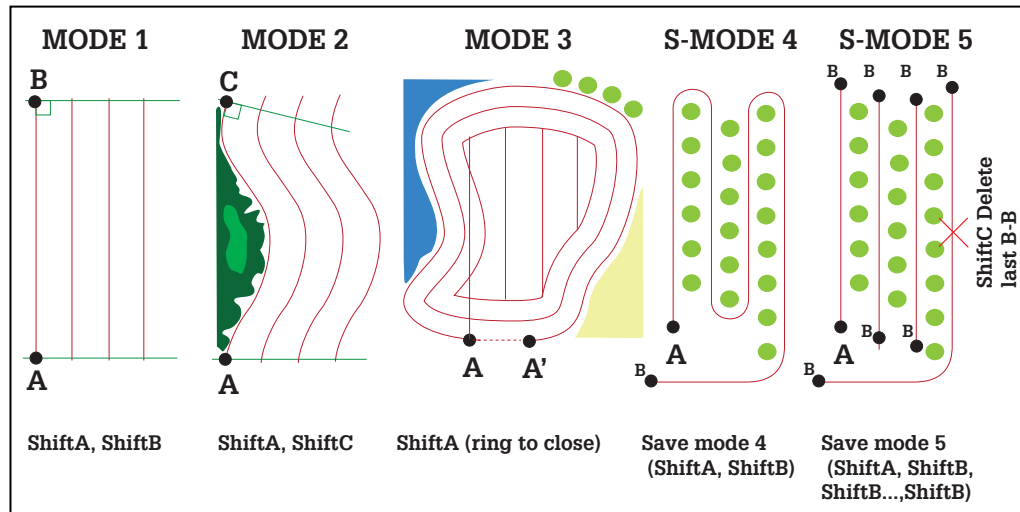

Fig. 22
- **How to define a valid path (Fig. 22)**